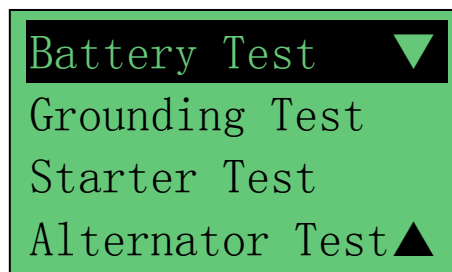

Figure 49
4. After you have made your choice, selecting "New: Clear Memory" or "Continue...Test" will proceed to the display below: (Fig. 49)